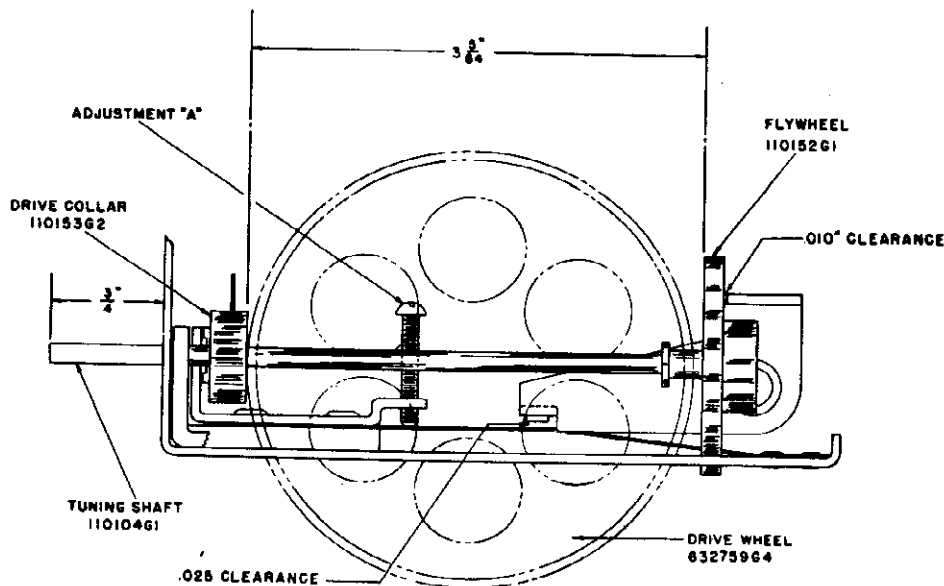

FIGURE 2
Whenever any of the mechanical parts in the condenser gang drive assembly require replacement due to rough handling or for any other reason, it is extremely important that clearances and adjustments shown on Figures 2 and 3 are affected; otherwise the tuning mechanism will be sluggish or it may slip during operation.
1. Assemble the Tuning Shaft, Drive Collar, Compression Spring, Spring Retainer and Flywheel in the manner shown on Figure 3. The Tuning Shaft must extend  $\frac{3}{4}$ " from the front of the assembly and that the spacing between the rear of the Drive Collar and the front of the Flywheel must be  $3\text{-}\frac{5}{64}$ " as specified on Figure 2. Any excess length in the Tuning Shaft may extend beyond the rear of the Flywheel.
4. Next, adjust the clearance in the muting switch contacts by turning the Phillips-head screw designated Adjustment "A" on Figure 2, until the specified clearance of  $.025$ " is obtained (when the push but-